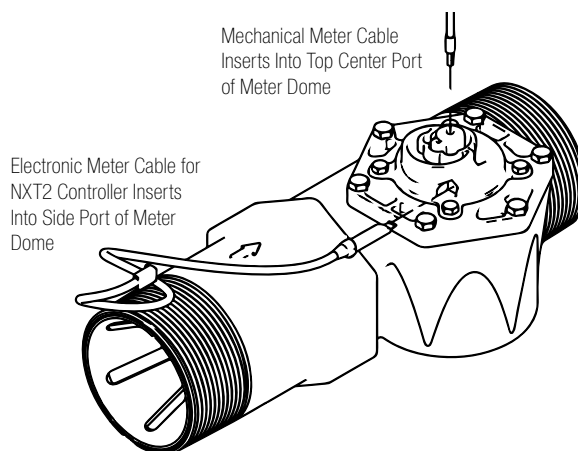

Figure 1
16. Connect meter cable(s) into meter dome(s) according to Figure 1. NXT2 & SXT controller meter cable(s) must use side port on meter dome(s). Connect the other end of the meter cable(s) to the control valve's P5 port located on the control valve's controller of the control valve the meter is plumbed into. For PWS30-2 series systems, connect the meter cable to a single control valve controller. See pages 15 & 16 for P5 location.